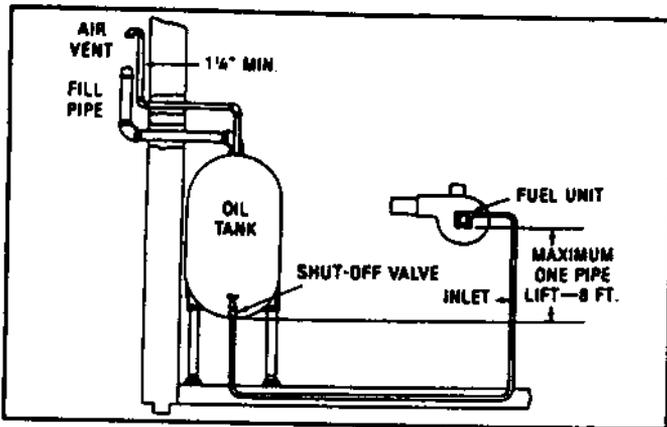

FIGURE 4
**DO NOT INSTALL BY-PASS PLUG!** Connect inlet line to pump inlet. Start burner. Arrange primary burner control for continuous operation during purging. Open easy flow bleed valve 1 turn CCW. Bleed unit until all air bubbles disappear — **HURRIED BLEEDING WILL IMPAIR EFFICIENT OPERATION OF UNIT.** Tighten easy flow bleed valve securely. (Figure 4)
The maximum allowable lift is 8 ft. — See Figure 4.